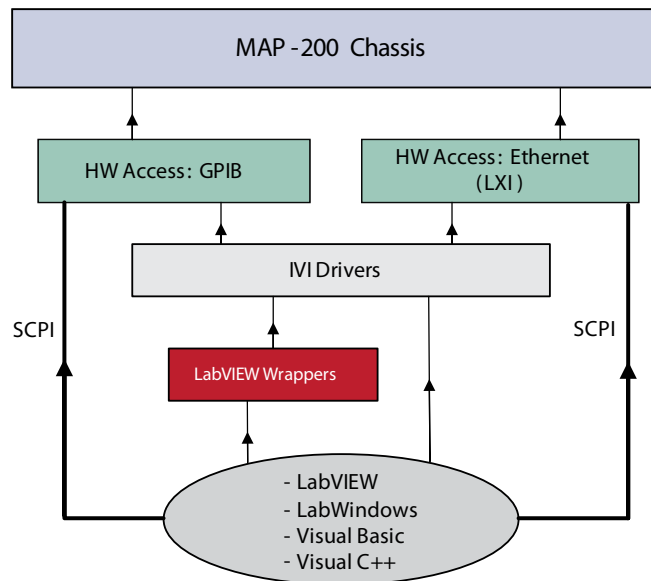

Figure 1: MAP-200 Communication Architecture
As with any programmable instrument, one or more hardware (HW) interfaces are available that allow communication between the instrument, the test PC, and test software. The MAP-200 is equipped with an Ethernet port and a General Purpose Interface Bus (GPIB) port. The MAP-200 is LXI (LAN Extension for Instrumentation)-compliant and falls under a LXI Class C instrument. Figure 1 highlights the communication architecture of the MAP-200.